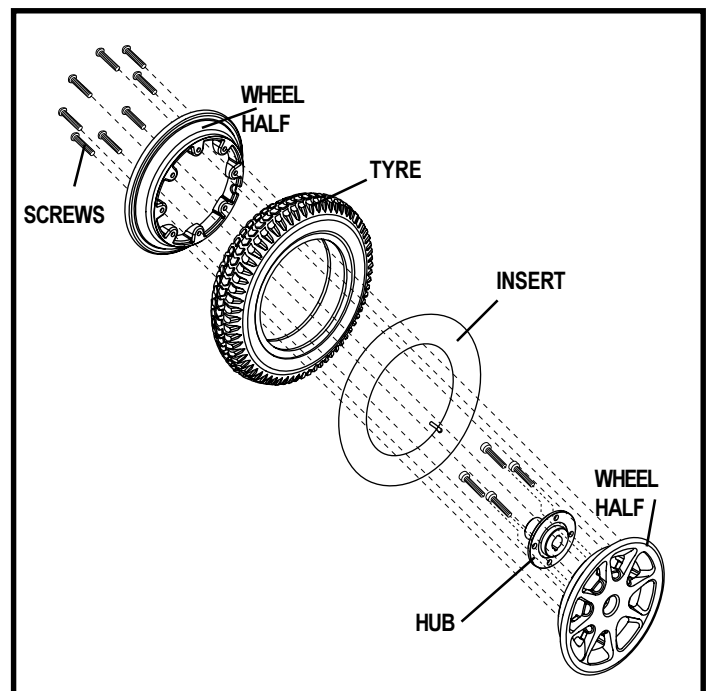

Figure 19. Quantum 1650 Wheel Assembly
6. Remove the screws that fasten the two wheel halves together. See figure 19.